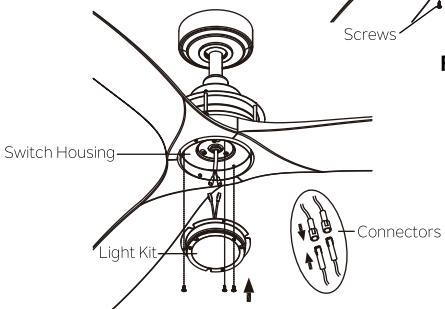

Fig. 26
Step 6. Hold the light kit close to the switch housing and connect the WHITE wires from the light kit and fan by pushing the connectors together. Follow the same procedure with the BLACK wires. (Fig. 26)